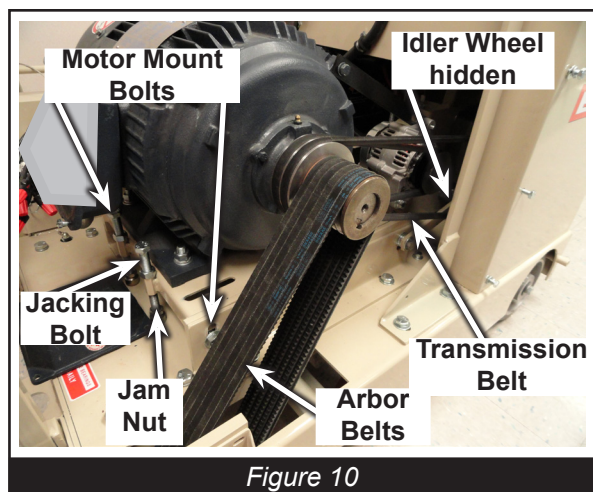

Figure 10
- Loosen motor mount bolts and jam nut on jacking bolt then turn jacking bolt to lift or lower motor mount. Lift motor mount to tighten belts and lower motor mount to loosen/replace belts. (Figure 10) Tighten hardware when finished.
- This step has to be performed before the alternator belt can be replaced. Once the previous step is completed to replace the transmission belt lift up on the idler wheel (Figure 10) for location and remove the belt from either the motor or transmission sheave and then the other end. Reverse this procedure to replace the transmission belt. No adjustment is necessary, the idler wheel provides proper tension for the transmission belt.